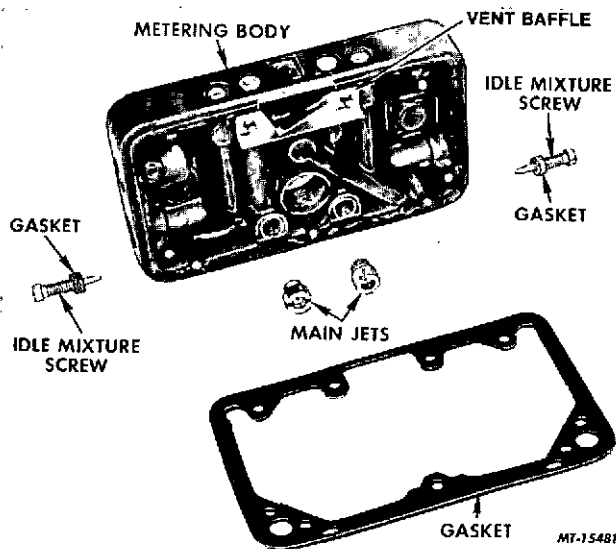

FIG. 31 Primary Metering Body, Fuel Bowl Side (Disassembled View)
7. Remove gasket and main metering jets using 3/8 inch wide screwdriver or proper jet socket (Figure 31).
8. Turn idle limiter caps "clockwise" to stops. Remove caps by prying off of idle mixture screws (if used). (NOTE: Be careful not to bend screws). Count and record exact number of "clockwise" turns to seat each screw lightly. The same number of turns must be maintained from the seat upon reinstallation. Remove screws and gaskets from metering body. Remove vent baffle (Figure 31).
**NOTE:** Inspect mixture screws. If the tapered portion is grooved or ridged, a new mixture screw should be installed to insure ability to maintain the correct idle mixture. Turn screws in lightly against their seats. Back each screw out the exact number of turns recorded during disassembly (Figure 31).
3. Install main metering jets using proper screwdriver or jet wrench (Figure 31).
4. Install fuel baffle (if used). Press metering body and fuel bowl gasket down firmly on the dowels (Figure 31). **CAUTION:** Be sure you are using the correct metering body gasket and that bowl gasket is not covering the accelerator pump passage.